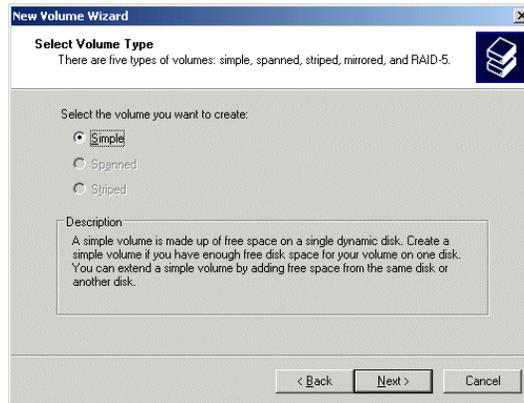

Figure 2-24
- 24) Click the **Next** button to be presented with the **Select Volume Type** screen. Click the **Simple** option as shown in Figure 2-24.